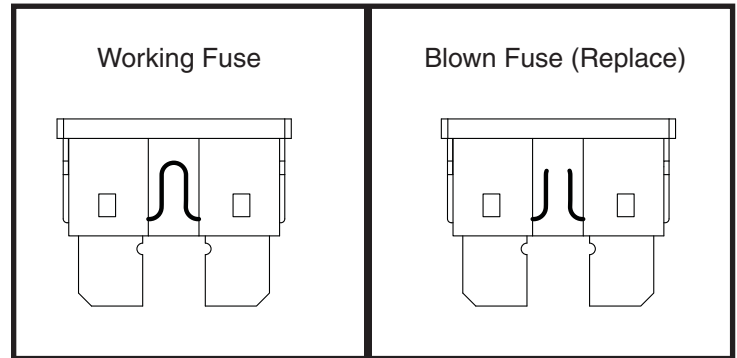

Figure 16. Fuse Replacement
2. Examine the fuse to be sure it is blown. See **figure 16**.